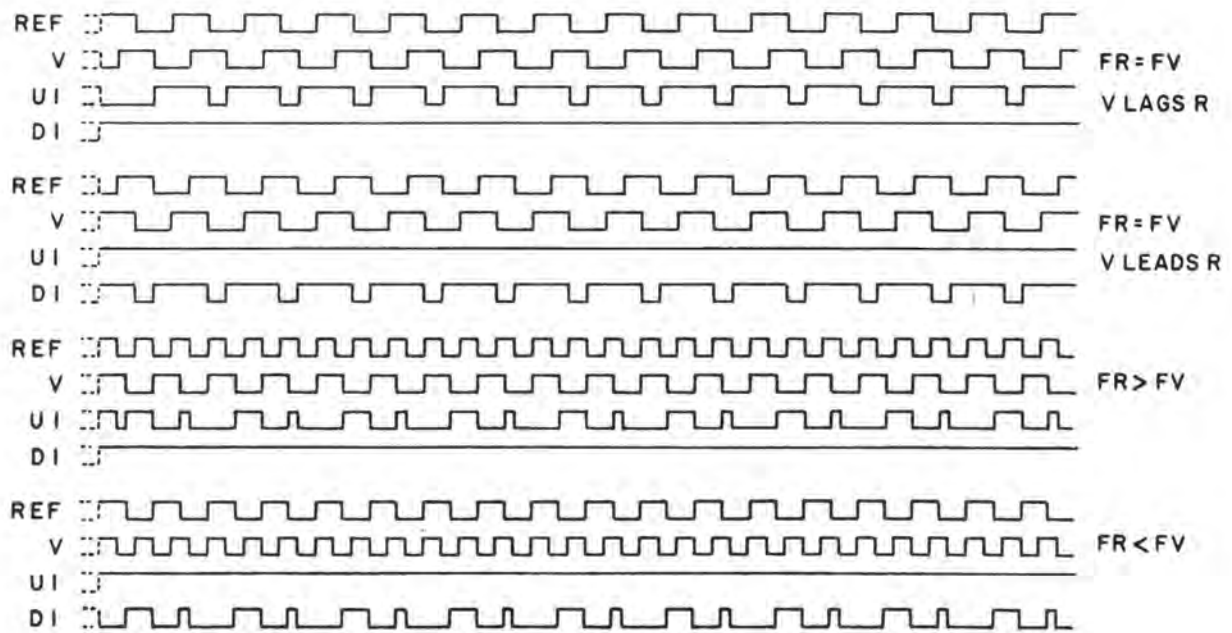

Figure 3-16. Phase Detector Timing Diagram
The phase detector receives a fixed reference frequency at one input (R) and a variable frequency at input (V) from the divider section. The detector responds only to differences between the two inputs and has four output states as shown in Figure 3-16. If the frequency and phase at the V and R inputs match exactly, outputs U and D remain high. If V leads R in phase, U remains high and D goes low. When V and R are different in frequency, the output at V and D varies high and low at a rate proportional to the frequency difference.